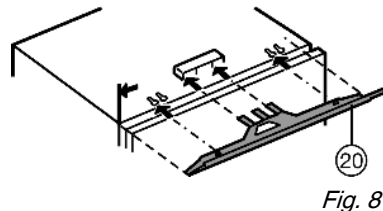

Fig. 8
- ▶ Fit equaliser trim Fig. 8 (20) so as to be flush with the side wall of the appliance on the handle side: slide into the channel and engage in the key holes.